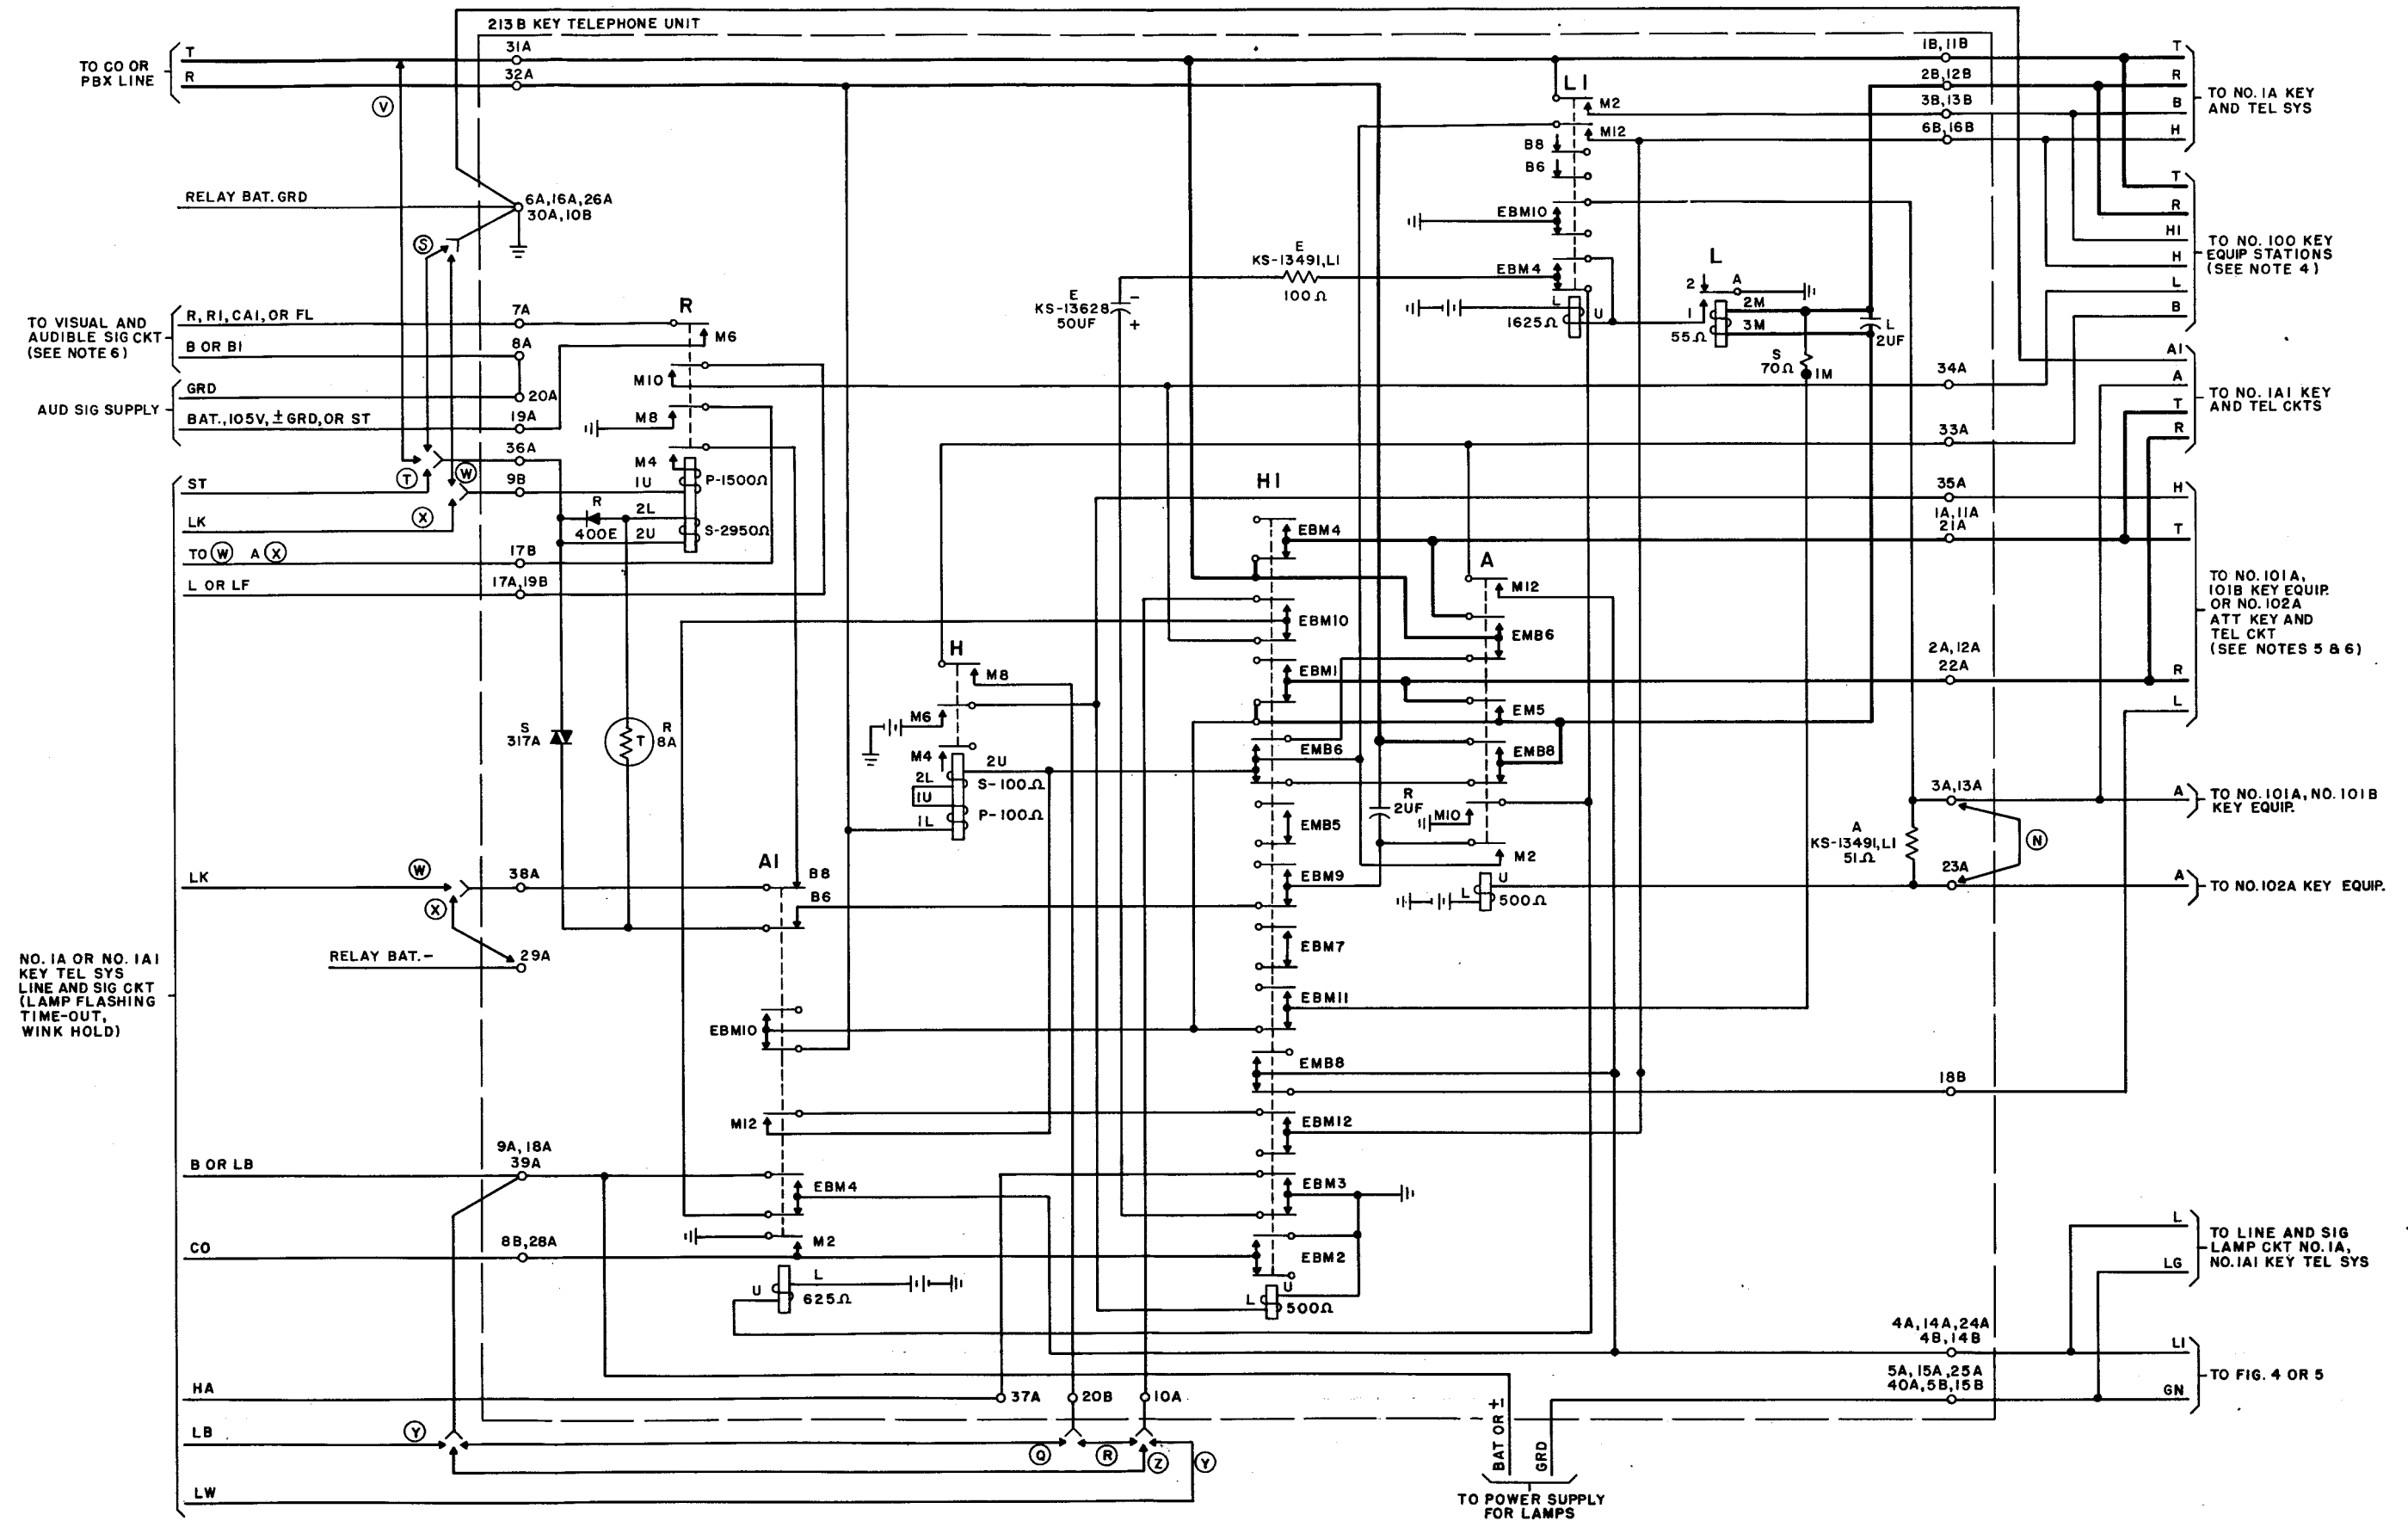

Fig. 3 - 213B KTU Universal Line Circuit
2.02 Fig. 3 is a circuit drawing of the 213B KTU with various wiring options. Refer to Table A for the proper option required.